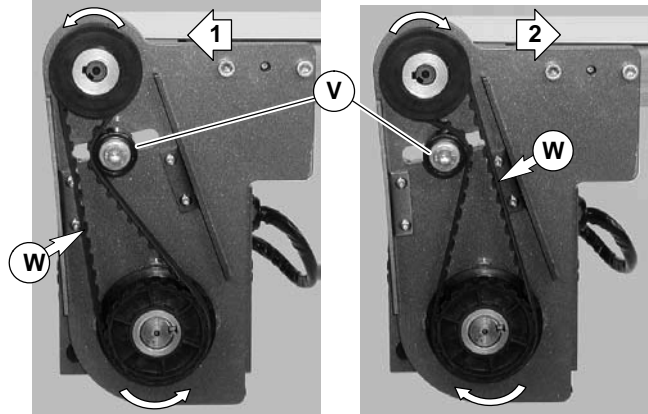

Figure 13
- Depending on direction of conveyor belt travel (1 or 2 of Figure 13), position belt tensioner (V) as shown. Tension belt to obtain 0.125" (3 mm) deflection for 1.0 lb (456 grams) of force at belt mid-point (W). Tighten tensioner screw to 103 in-lb (12 Nm).
3. Depending on direction of conveyor belt travel (1 or 2 of Figure 13), position belt tensioner (V) as shown. Tension belt to obtain 0.125" (3 mm) deflection for 1.0 lb (456 grams) of force at belt mid-point (W). Tighten tensioner screw to 103 in-lb (12 Nm).
5. Depending on direction of conveyor belt travel (1 or 2 of Figure 13), position belt tensioner (V) as shown. Tension belt to obtain 0.125" (3 mm) deflection for 1.0 lb (456 grams) of force at belt mid-point (W). Tighten tensioner screw to 103 in-lb (12 Nm).